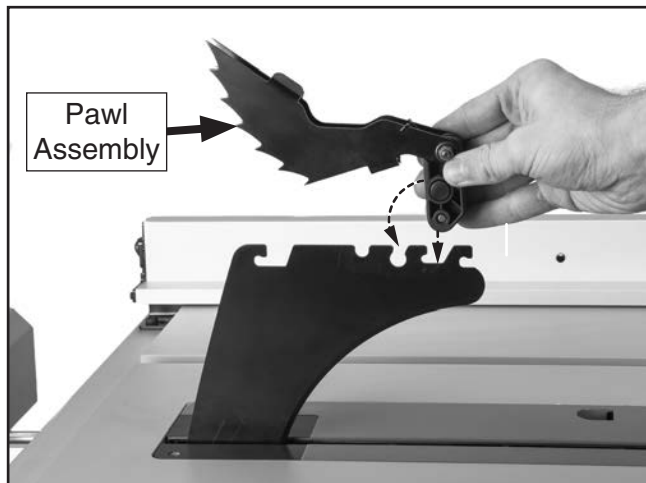

Figure 17. Installing anti-kickback pawls onto spreader.
7. Insert front of pawl assembly into spreader where shown in **Figure 17**, then pivot back of pawl assembly down and snap in place.